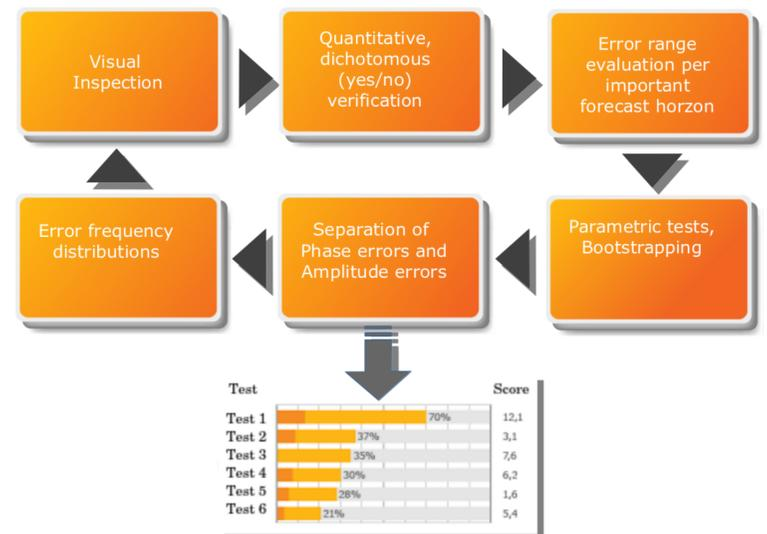

Figure 3: Testing multiple characteristics of a forecast system is often necessary
- Focus should be on maximising forecast value, not simply error metrics, see Figure 3